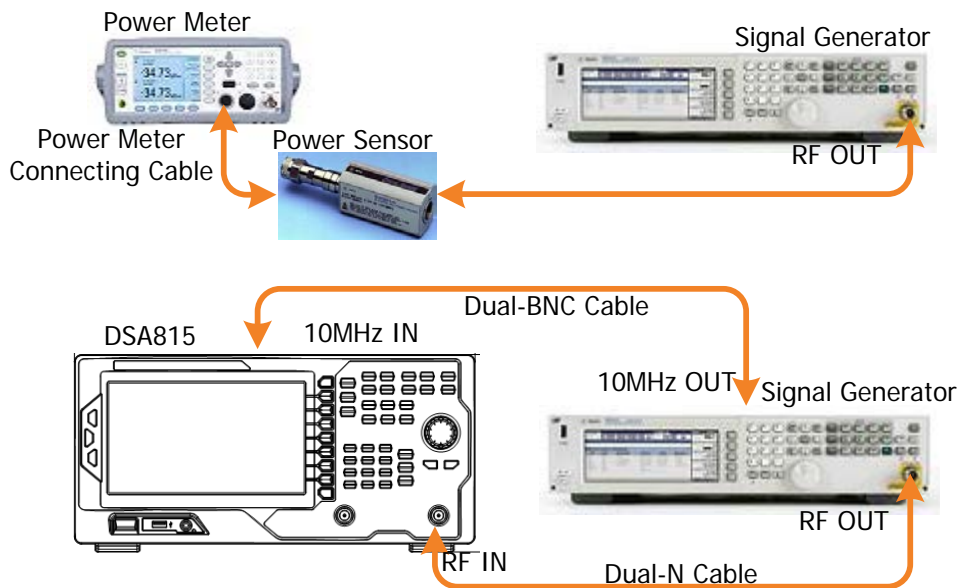

Figure 2-4 Frequency Response Test Connection Diagram
2. Connect the output terminal of the signal generator with the power sensor, as shown in Figure 2-4 (a).
8. Connect the output terminal of the signal generator with the RF input terminal of the spectrum analyzer using dual-N cable, as shown in Figure 2-4 (b).